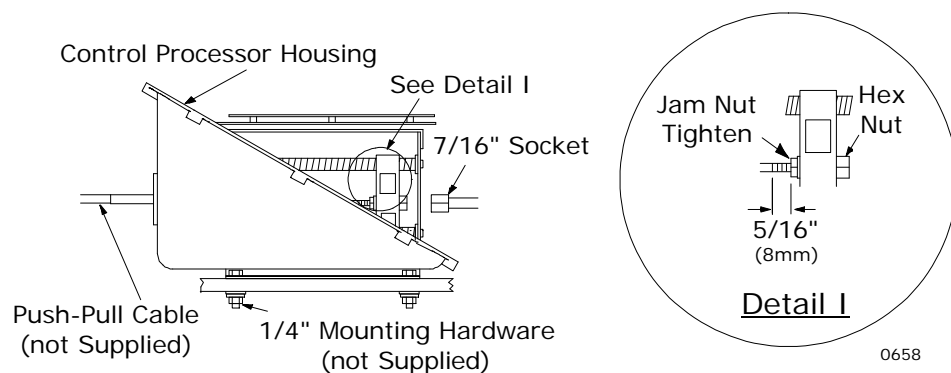

Figure 8 - Push-Pull Cable Connection
- G) Connect the push-pull cable to the hex nut (See Figure 8, Detail I). Use a 7/16-inch socket to turn the hex nut onto the cable rod end until there is approximately 5/16 inch (7,9mm) of thread showing beyond the jam nut.